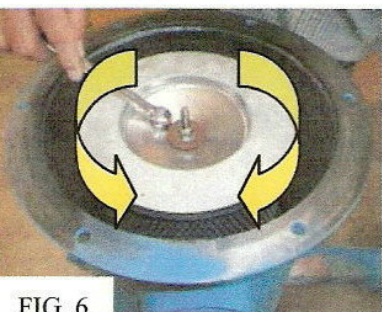

FIG. 6
- Try to rotate the element like in Step 2. If it does not move, the nut is tight enough. (Fig. 6)